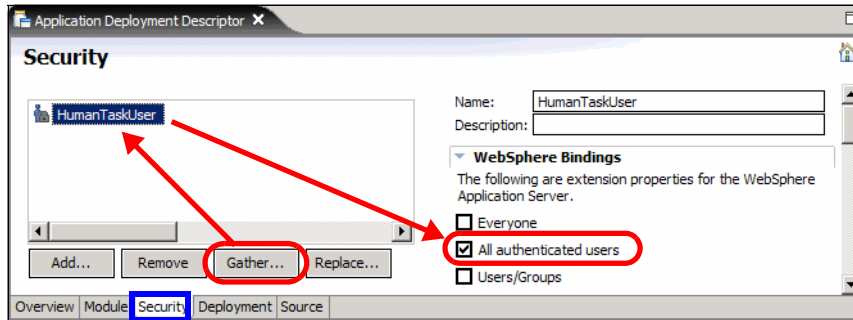

Figure 11-16 Enterprise application deployment descriptor security
- ▶ Click *Gather*, then select the HumanTaskUser and select *All authenticated users* (Figure 11-16). Save and close the deployment descriptor.
The only action to be performed is updating the enterprise application deployment descriptor by gathering the security specification. Refer to Figure 11-16 on page 317 for instructions.